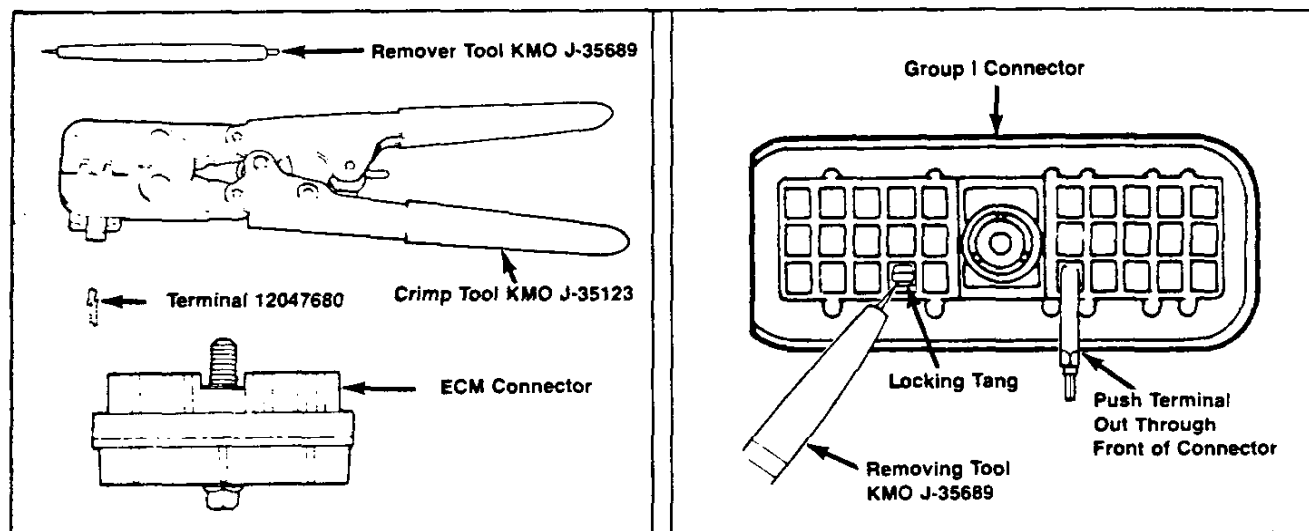

Figure 35
The connectors in Group I use Weather Pack seals that are inserted into the shell of the connector instead of being installed on each individual cable (Fig. 35).
1. Insert the removal tool J35689 into the cavity of the connector, placing the tip of the tool between the locking tang of the terminal and the wall of the connector (Fig. 35).